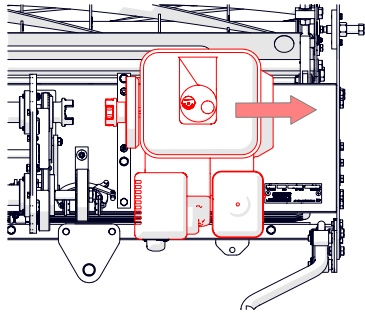

Fig. 14D - Slide engine away from coupling.
5. Check the fuel cap and engine oil plug are secure. Slide the engine towards the right hand side of the machine and remove safely to the side (Fig. 14D).